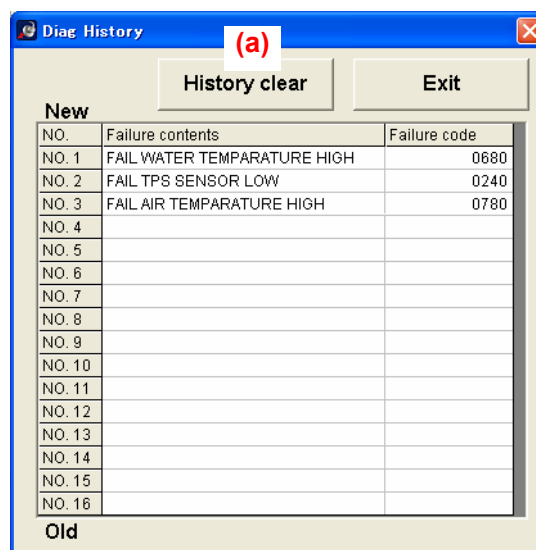

Fig. 9-2-1
- i) Select the [**History clear**] button (Fig. 9-2-1 (a)).